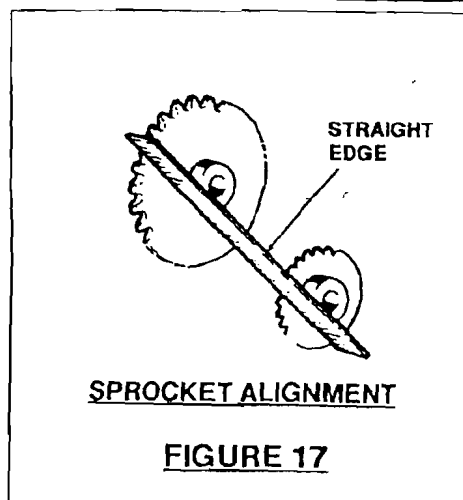

FIGURE 17
- STEP E:** Alignment of sprockets: Refer to **Figure 17**. Press edge of straight edge to side of sprocket **E**. Slide **E** until straight edge touches outside face of small sprocket on sprocket **B**. Tighten set screw of sprocket **E**.